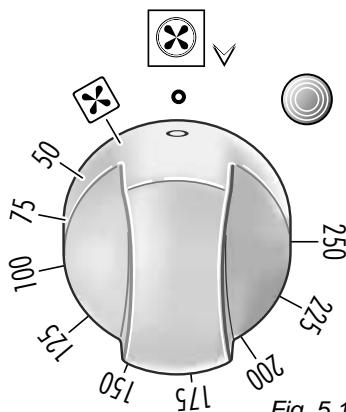

Fig. 5.1
Turn the selector knob (fig. 5.1) to the required function.
**OFF** as per fig. 5.1